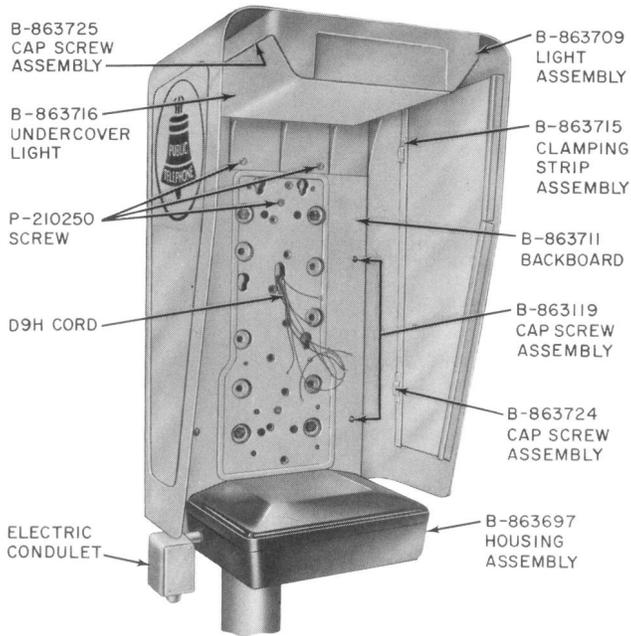

Fig. 6—KS-16705 Mounting, Front View
3.08 The mounting may be installed on a wall or similar surface. If the mounting is fastened to a steel post, special clamps are available (Fig. 6, 7, 8, and 9).